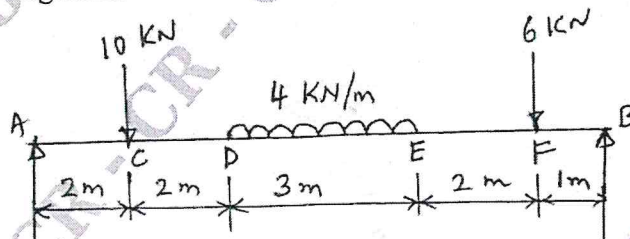

Fig. Q6 (a)
- 6 a. A 10 m long simply supported beam is loaded as shown in Fig. Q6 (a). Draw the shear force and bending moment diagrams. (10 Marks)